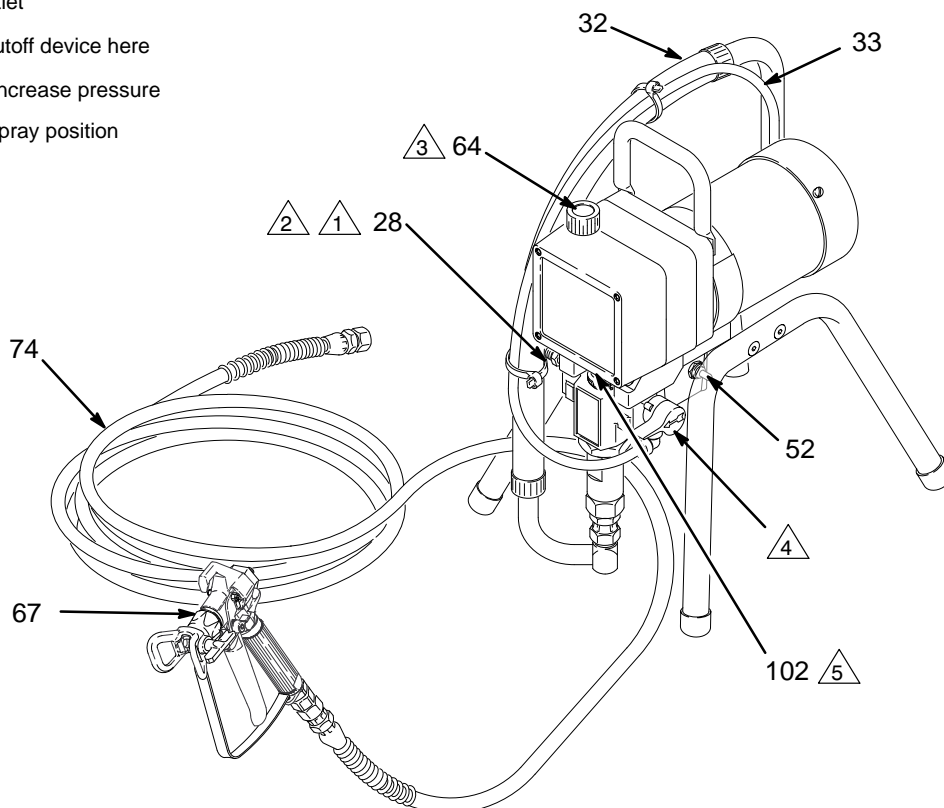

Fig. 2
3. Never install any shutoff device between the filter and the hose. See Fig. 2.